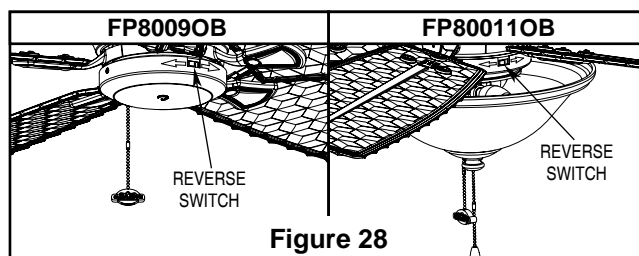

Figure 28
3. If airflow is desired in the opposite direction, turn the fan off and wait for the blades to stop turning. Then slide the reverse switch to the opposite position and turn fan on again. Your fan model is equipped with a 4-position, 3-speed, pull chain switch. (Figure 28)